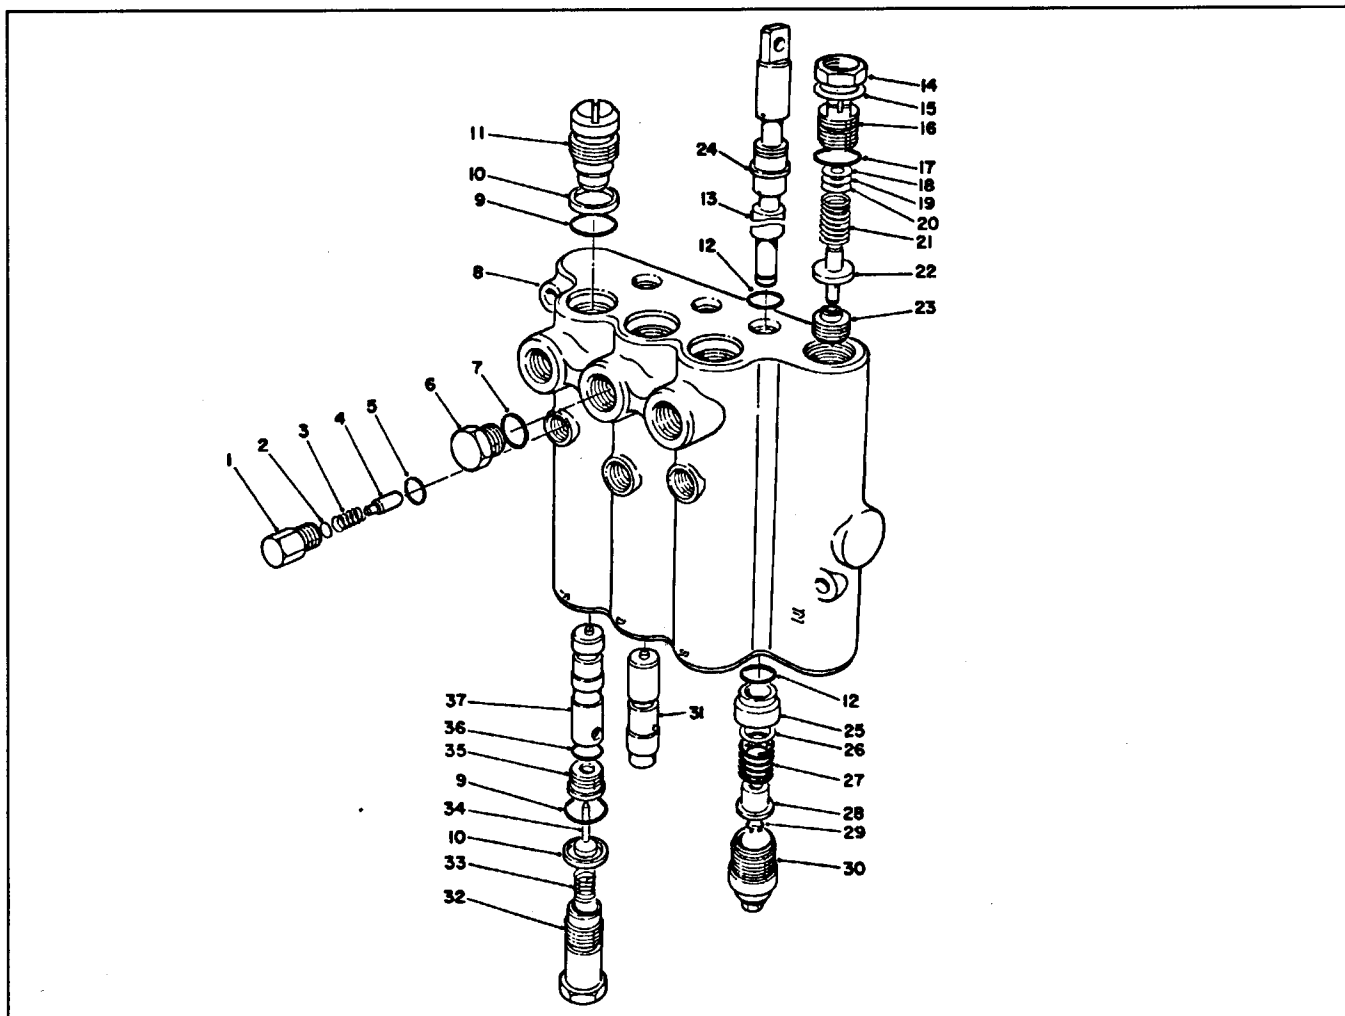

Figure 46
2. Remove spool caps (Fig. 46, Item 30). Do not remove retaining rings from spools.